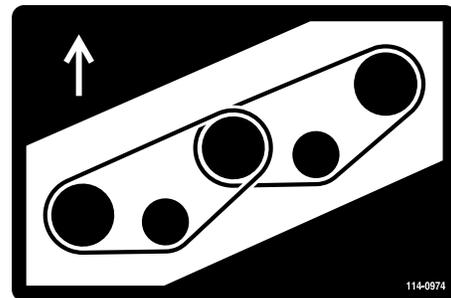
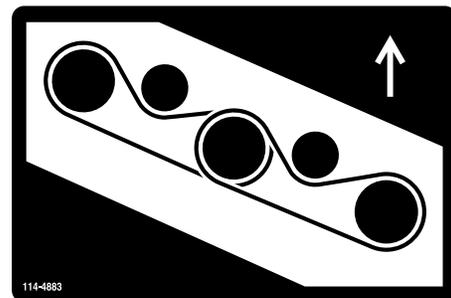

Figure 128
Figure 129
- Route the new belt around the spindle pulleys and idler-pulley assembly (Figure 128 and Figure 129).